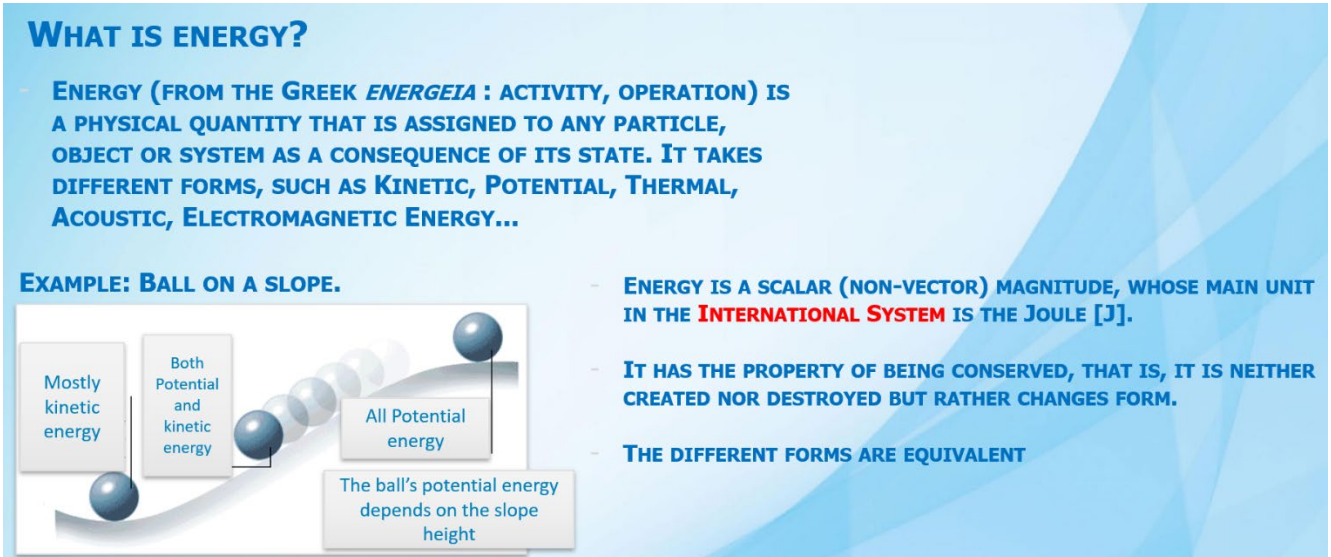

Figure 1 Basic definitions of energy
1.1 BASIC DEFINITIONS: It is necessary to know some **energy concepts, from a physical or engineering point of view**. Its formal definitions allow us to introduce the topic. The infographic in Figure 1 gives the definition of energy, its units and characteristics, and an example that shows two of its forms (potential and kinetic energy).